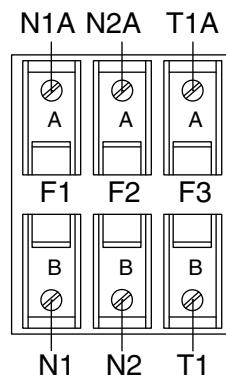

Figure 4-56. Transfer Switch Fuse Block
5. See Figure 4-56. Remove fuse F3 from the fuse holder.